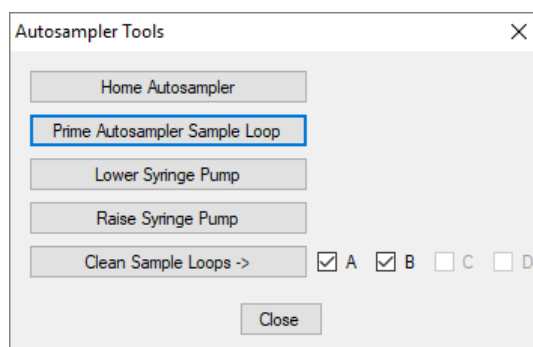

Figure 9.2: Autosampler Tools
- **Autosampler...** displays a number of buttons that are used to control the autosampler in preparation for the start of the experiment, see Figure 9.2.